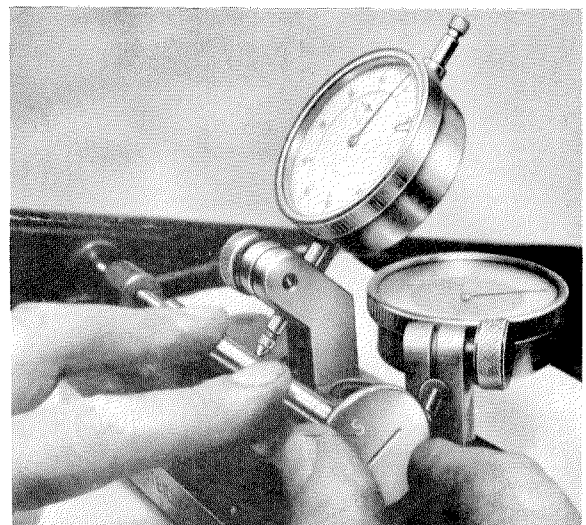

Figure 05-13/2
2. Grind the valve cone on a valve seat grinder to an angle of $90^\circ + 30'$ without chatter marks (see Figure 05-13/3).